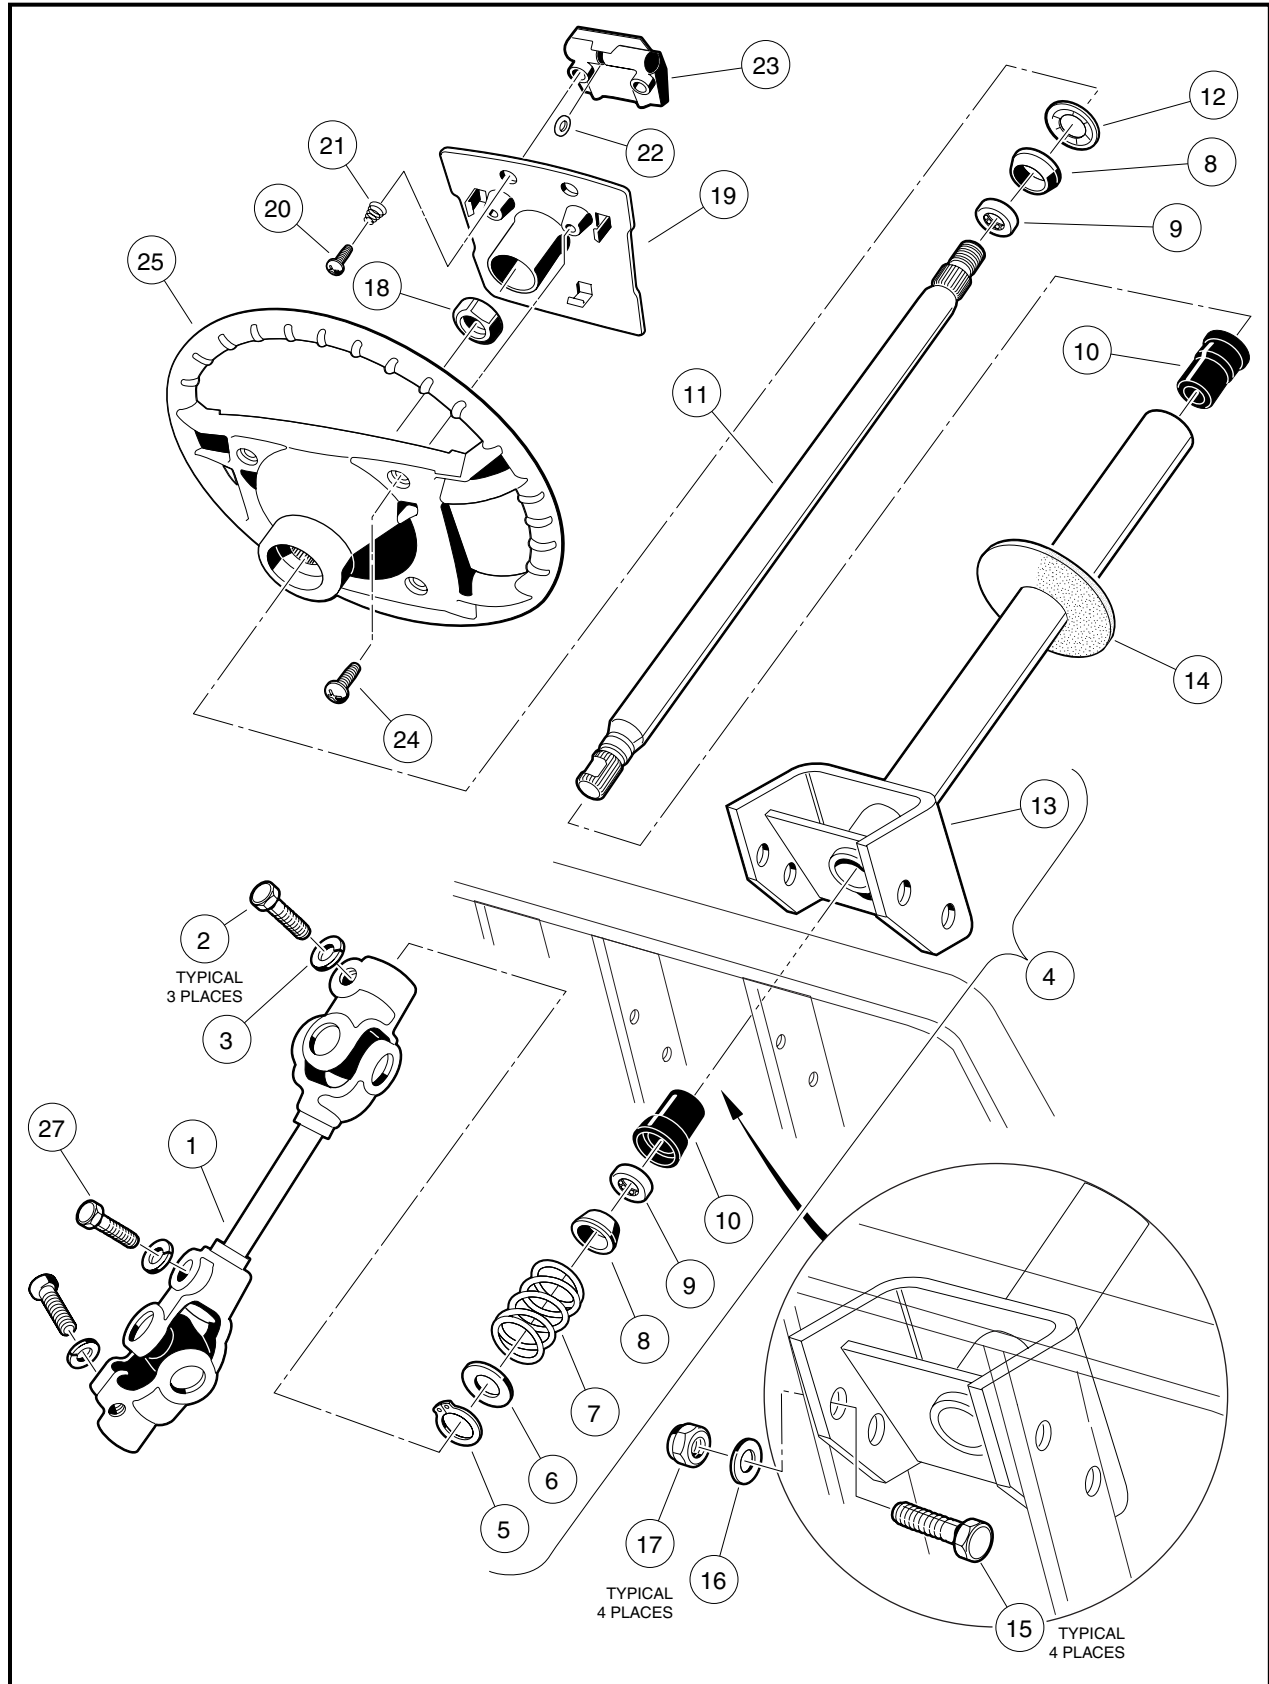
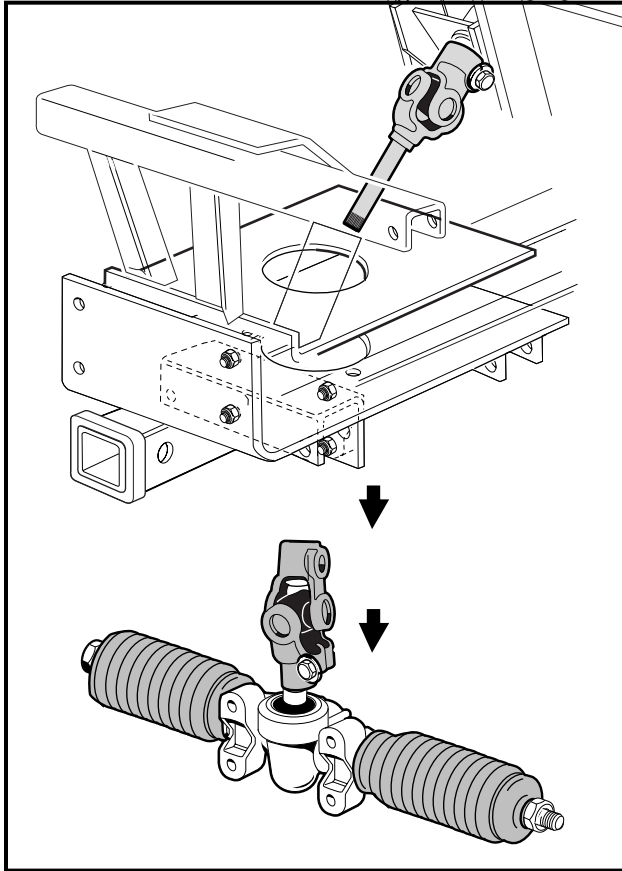

Figure 7-3 Steering Column
Figure 7-8 Remove Rack and Pinion
4. Remove the two mounting screws (24) and plate (19) (**Figure 7-3, Page 7-2**).
5. Match mark the steering wheel (25) and steering column shaft (11) for installment positioning.
6. Loosen the steering wheel nut (18) and back it off approximately 1/4-inch (6 mm). Do not remove the nut.
1. Install the steering wheel (25) on the splines of the steering shaft (11). Align the match marks placed on the wheel and steering column shaft in step 5 above (**Figure 7-3, Page 7-2**).
2. Install the steering wheel nut (18) and tighten to 13 ft-lb (17.6 N·m).
3. Install the steering wheel plate (19) and mounting screws (24) and tighten screws to 16 in-lb (1.8 N·m).
7. Remove the nuts (17), bolts (15), and washers (16) from the steering column mount (13) (**Figure 7-3, Page 7-2**).
1. While supporting steering column (13) on a workbench, remove snap ring (5) from shaft (**Figure 7-3, Page 7-2**).
2. Remove the washer (6), spring (7), and wedge (8) (**Figure 7-3, Page 7-2**).
3. Turn the steering column over and slide the shaft out of the tube to expose the retaining ring (12). Use pliers to twist the retaining ring (12) until it breaks off, then remove the wedge (8).
4. Remove the shaft (11) from the bottom of the tube (13).
5. Use steering shaft (11) to push bearing seat (10) out from the opposite end of the steering tube (13).
6. Insert a flat blade screwdriver between the bottom of the outer race of the bearing (9) and the bottom lip of the bearing seat (10) and remove the bearing (9).
4. Insert the shaft (11) from the bottom of the steering tube (13) (**Figure 7-3, Page 7-2**).
1. Install boot (14) (if previously removed) (**Figure 7-3, Page 7-2**).
3. Position the steering column assembly in the vehicle while inserting the steering column shaft into the upper steering universal joint (1). The flat portion of the steering shaft spline (11) must be aligned with the bolt hole in the steering universal joint (1) before sliding the spline into place (**Figure 7-3, Page 7-2**).
5. Hold the steering column in place and attach it to the frame using bolts (15), washers (16) and lock nuts (17) (**Figure 7-3, Page 7-2**). Tighten the four bolts, in a crisscross pattern to 23 ft-lb (31.2 N·m).
6. Tighten bolt (2) on the upper steering universal joint (1) to 15 ft-lb (20 N·m).
7. Check the other bolts on the lower steering universal joint assembly (1) to ensure that they are properly tightened to 15 ft-lb (20 N·m) (**Figure 7-3, Page 7-2**).
7. Remove the bolt (27) and lock washer (**Figure 7-3, Page 7-2**) from the universal joint, then remove the rack and pinion assembly and universal joint from the vehicle (**Figure 7-8, Page 7-7**).